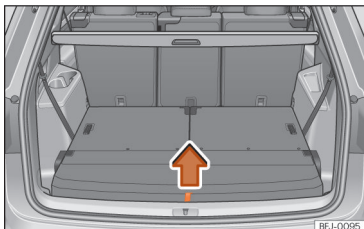

Fig. 161 In the boot: lift the boot floor.
- Grab the boot floor by the cord »» **Fig. 161** and lift it in the direction of the arrow and remove it.